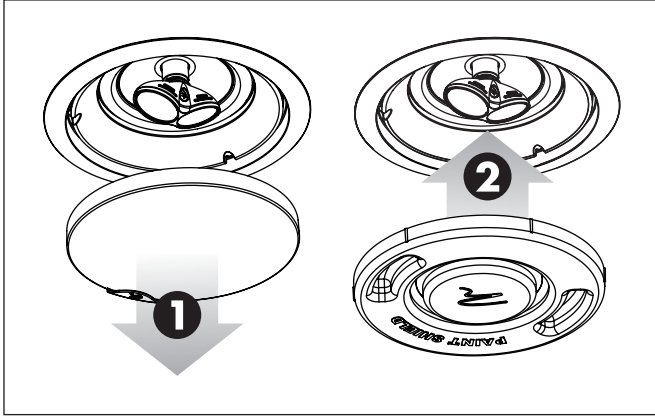

Figure 17. Painting the speaker frame.
- 1 Remove the grill from the Helos 20 (see figure 17).
- 2 Press the paint shield into place (see figure 17).